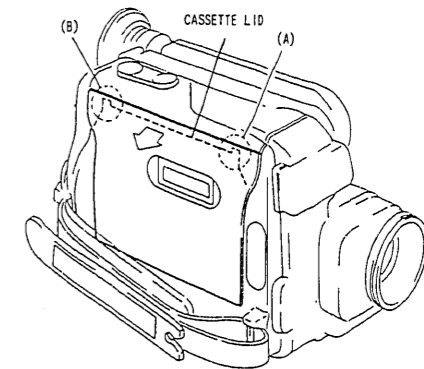

Fig. 3-7
- If the VM-E10A does not enter the eject state with the above procedure, remove the right case by performing steps (11)-(19) below.
- If the cassette cannot be removed, perform steps (11)-(19) below to eject the cassette.
- (11) Disconnect the DC3V power supply from CN904 (loading motor).
- (12) Insert a flat bladed screwdriver between the right case and cassette lid and push sections (A) and (B) of the cassette holder in the direction of the arrow (be careful) not to damage the case) to remove the cassette lid, then return section (A) and (B) to the original position. (See Fig. 3-7)